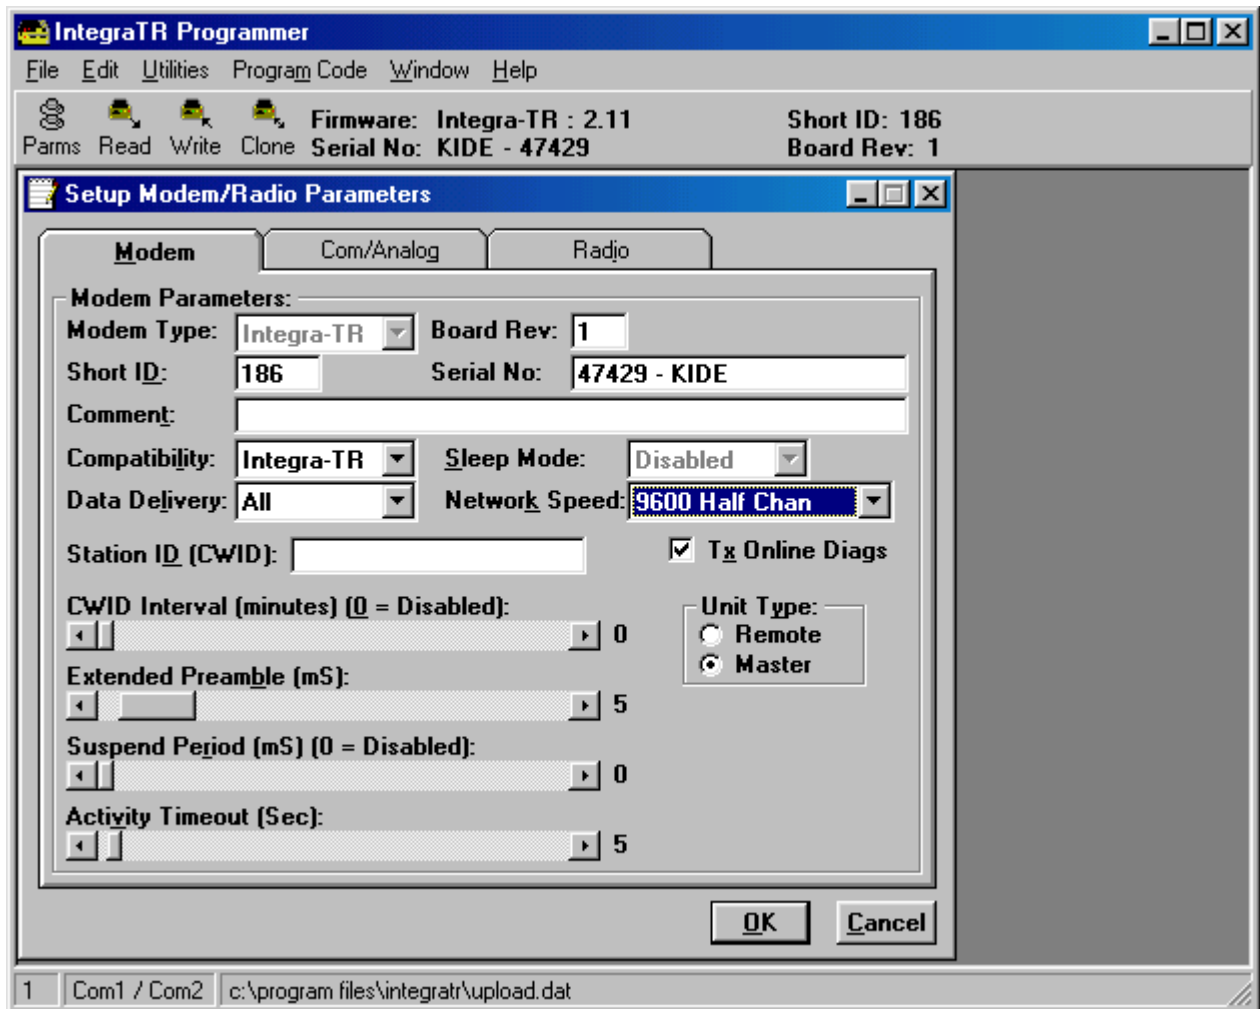

Figure 3. Modem parameters setup window
- h. Click on the Parms toolbar button in the main window. Figure 3. Modem parameters setup window will appear. Make sure the Modem tab is selected. Select the Network Speed. For 8210/9210s select 9600 Half Chan if you have one frequency for TX and RX. If you have separate TX and RX frequencies, select [XXXX]. For details on these settings, please see the INTEGRA technical manual section 2.4.4.1.